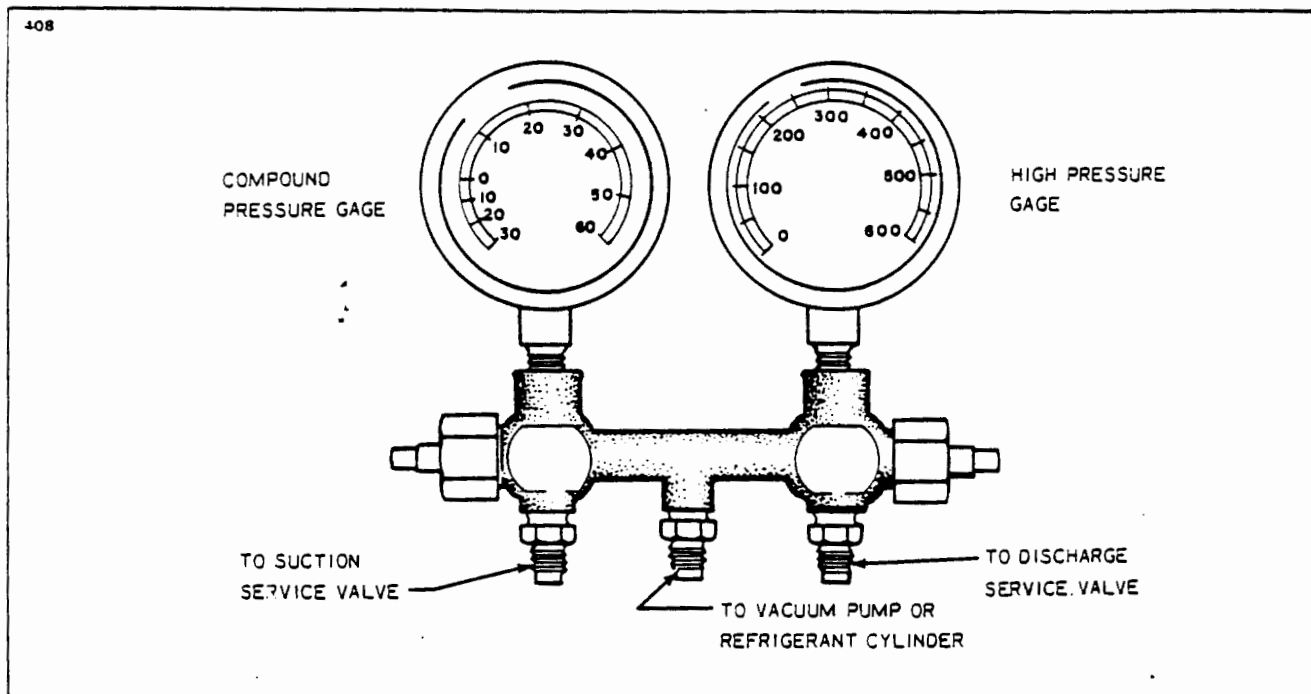

Figure 21-25. Test Gauge and Manifold Set
The proper testing and diagnosis of the air conditioning system require that a manifold gauge set be attached into the system. This set consists of two gauges mounted to a manifold. One gauge is a high pressure gauge used in the discharge side of the system. The other is a low pressure gauge used in the suction side of the system. The manifold is a device having fittings for both gauges and connection hoses with provisions for controlling the flow of refrigerant through the manifold. See Figures 21-25 and 21-26.
Cracking the hand valve, in the counterclockwise direction, opens the system to the middle service port of the manifold set. This is desirable only when it is necessary to let refrigerant out or into the system. Refer to Figure 21-25 and 21-26.
3. The high and low manifold hand valves should be in the closed position. (Refer to Figure 21-25 and 21-26.)